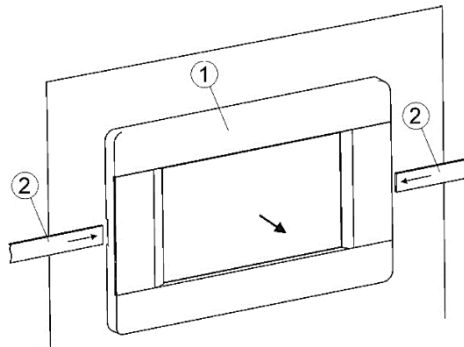

Figure 12. Removing the control panel
To replace the control panel (1), the panel must be removed from the boiler door cover by inserting suitable flat objects (2) into the slots shown in Figure 12. This will cause the panel stops to dislodge and allow the panel to be removed.